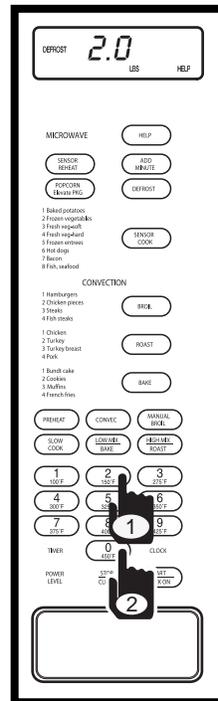

Figure 3-53.
3. Enter weight of the food being defrosted. For example: press the number 2 key, and number 0 key for 2.0 pounds (See Figure 3-53). After weight is entered, display will flash "2.0 - PRESS - START".